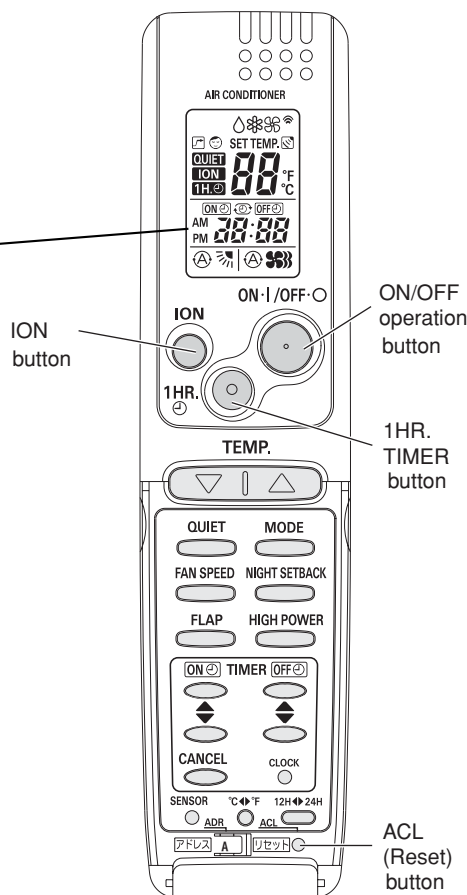

Fig. 64
- (5) "oP-7" has now been selected for address setting.
- (6) Press the ON/OFF operation button on the remote controller. (Fig. 64) Check that the "beep" signal-received sound is heard from the second indoor unit (approximately 5 times). The sound you hear is the signal that the remote controller address has been changed.
- (7) Finally press the remote controller ACL (reset) button to cancel the blinking "oP-7" display.
(Fig. 64)